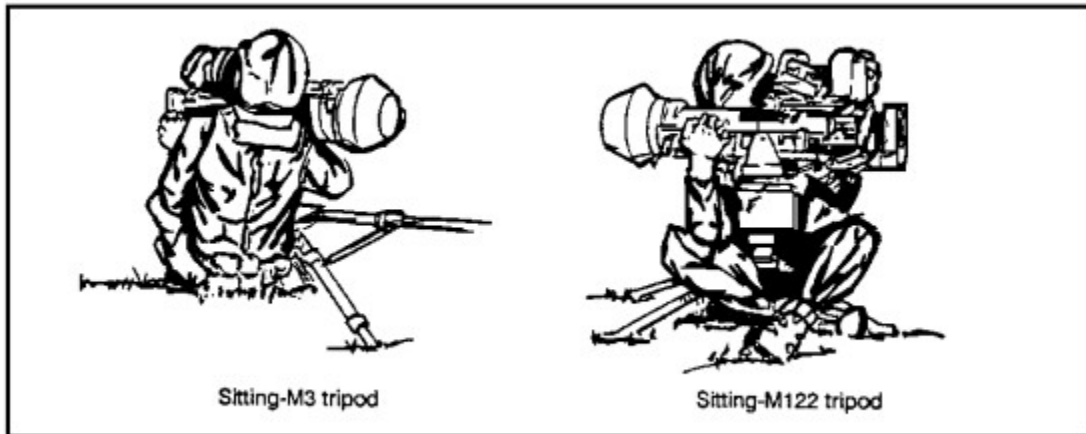

Figure 1-12. M3/M122 Machine Gun Tripods.
(2) M3/M122 Machine Gun Tripod. Either the M3 or the M122 machine gun tripods (shown in Figure 1-12) can be used to fire the Dragon from a ground support position.